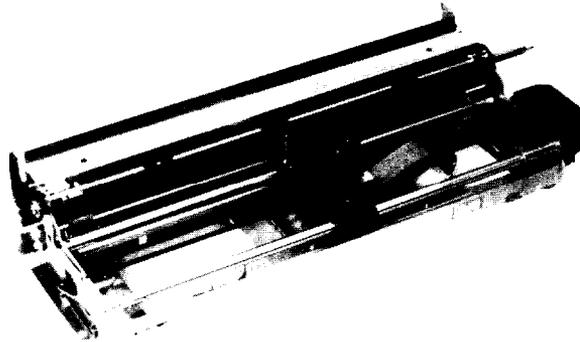

Fig. 1.2 Model-3660 printer mechanism
(2) Model-3660 printer mechanism (Fig. 1.2)